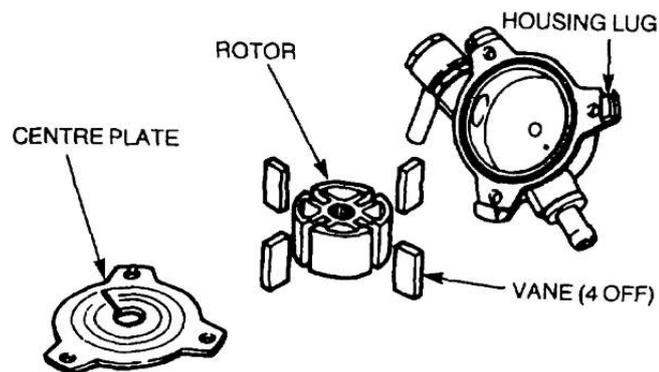

Figure 310 Disassembly of the Vacuum Pump
- c. Turn the vacuum pump centre plate to release it from the three lugs. Remove the plate, rotor and vanes (Figure 310).